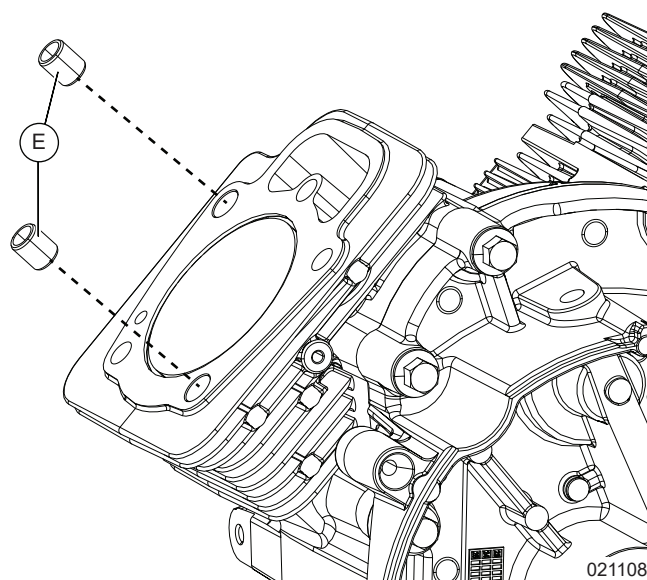

Figure 6-30. Remove Cylinder Head Bolt Dowels
2. See Figure 6-30. Remove the cylinder head bolt dowels (E) from cylinder head assembly.